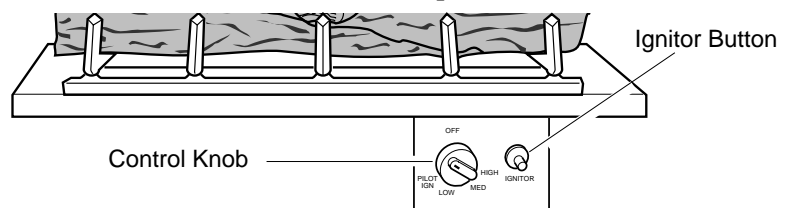

Figure 27 - Control Knob and Ignitor Button Location
4. Wait five (5) minutes to clear out any gas. Then smell for gas, including near the floor. If you smell gas, STOP! Follow "B" in the safety information above. If you don't smell gas, go to the next step.
5. Turn control knob counterclockwise  to the PILOT position. Press in control knob for five (5) seconds (see Figure 27, above).